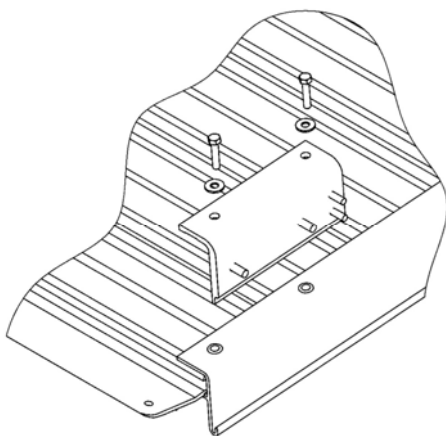

FIG 39
- NOTE:** There is a left and right top support bracket. The two 3/8" studs aligned horizontally should be toward the end of the ramp (FIG 39).